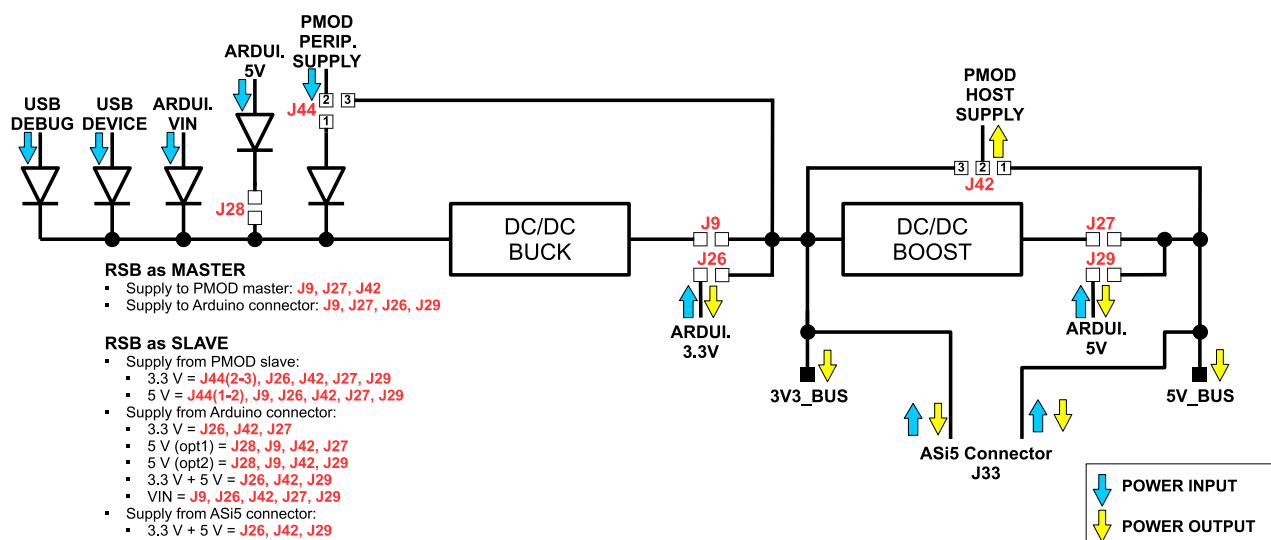

Figure 3: Power supply block diagram.
In Figure 3 the power supply chain is shown, together with the different configurations available.
- The power supplies on the connector J5 must be properly configured referring to Figure 3. As default, only VIN is connected to the VDD_IN through a diode.